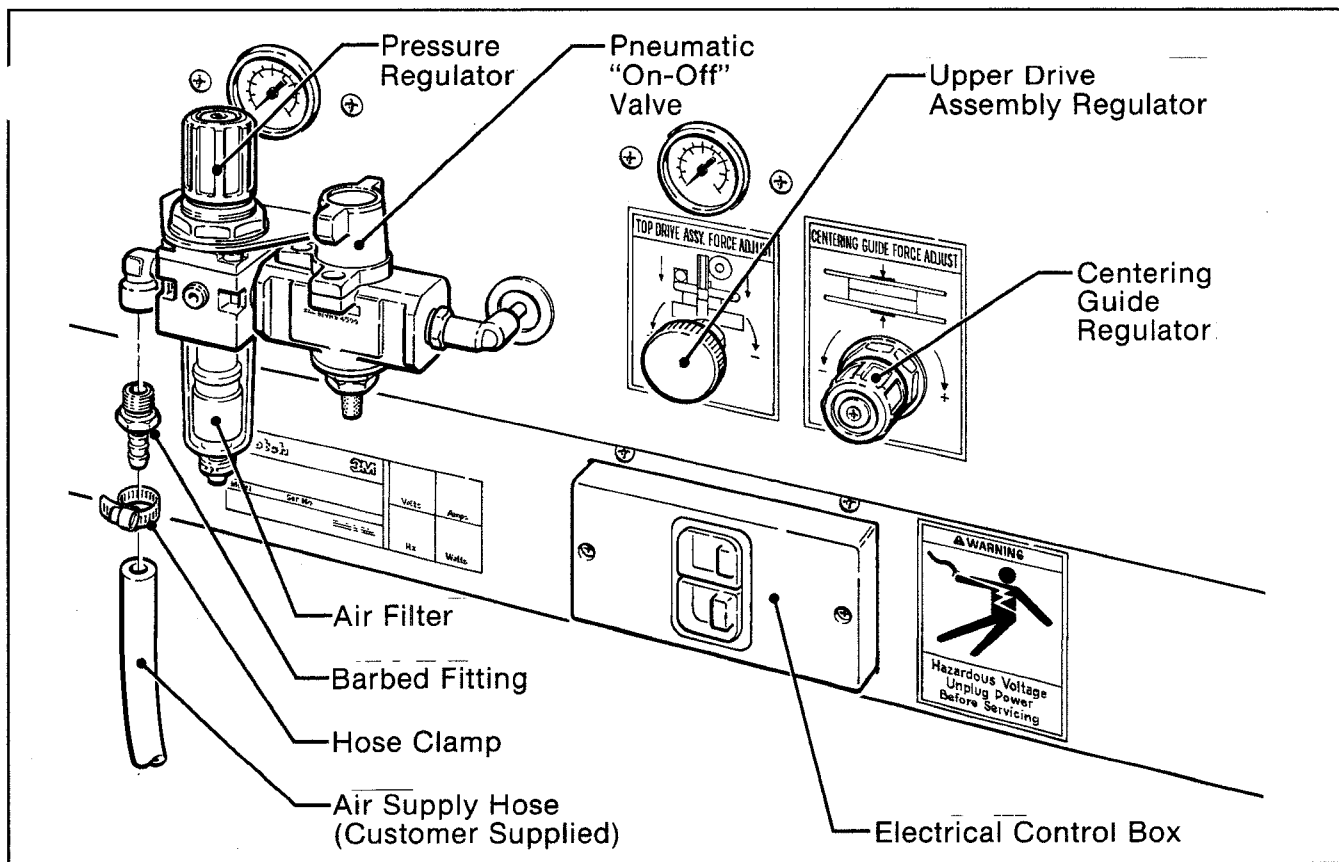

Figure 2-7 – Pneumatic Connections
The case sealer requires a 70 PSIG [5 bar gauge pressure], 3.75 SCFM [110 litre/min @ 21° C, 1.01 bar] compressed air supply. As shown in Figure 2-7, an on/off valve, pressure regulator, and filter are provided to service the air supply.
1. Connect the main air supply line to the inlet side of the air pressure regulator using the barbed fitting and hose clamp provided. See Figure 2-7. The customer supplied air hose (5/16 inch [8 mm] ID) must be clamped tightly to the barbed fitting.
electrical control box, shown in Figure 2-7, contains the "On-Off" switch with pre-set circuit breaker and can be located on either side of the main conveyor for customer operating convenience. An 8 foot [2.4 m] standard three conductor power cord with plug is provided at the back of the electrical control box for 115 Volt, 60 Hz, 3.8 Amp electrical service. The receptacle providing this service must be properly grounded. Before the power cord is plugged into 115 Volt, 60 Hz outlet, make sure the switch is "Off" and that all packaging materials and tools are removed from the machine.